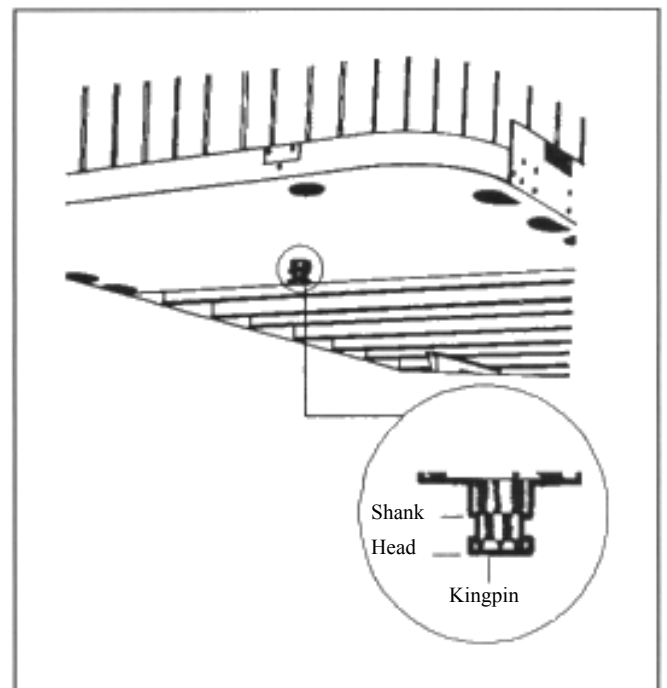

Figure 6-7
- ✓ Go under trailer and look into the back of the fifth wheel. Make sure the fifth wheel jaws have closed around the shank of the kingpin (see Figure 6-7).